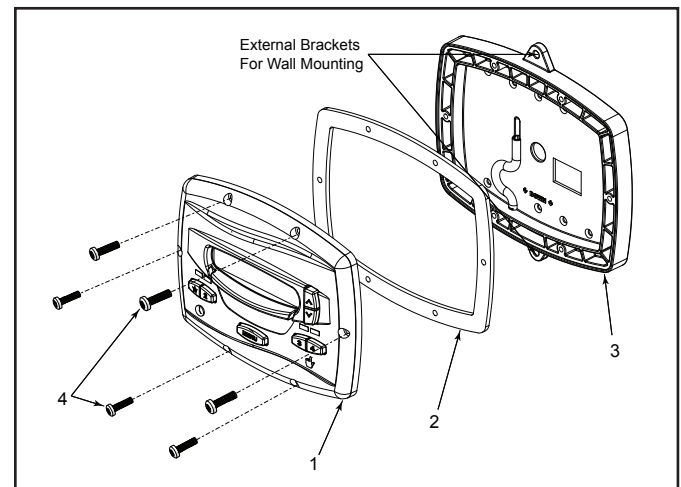

Figure 3. Controller Components
The controller assembly contains the following components. See "Figure 3. Controller Components":
3. Carefully detach the backplate from the controller by removing the six (6) screws from the front of the controller. Do not tug on the cable that is attached to the backplate in order to avoid damage to the cable or terminal block.
4. The backplate has nine (9) mounting holes to choose from. Only drill out the plastic film from the holes to be used. See *"Figure 3. Controller Components"*.
3. A minimum of two (2) fasteners (installer supplied) are required when installing to a flat wall to hold the controller securely.
4. The backplate has two (2) mounting holes on the top and bottom. By using the external mounting holes, you do not need to remove the backplate from the controller. See *"Figure 3. Controller Components"*.
2. Disassemble JEP-R controller from the backplate by removing the six screws. See *"Figure 3. Controller Components"*.